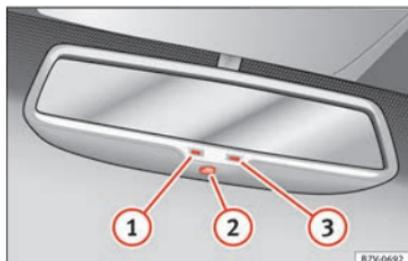

Fig. 147 Automatic anti-dazzle function for rear vision mirror
Key to **Fig. 147**:
- ① Control lamp
- ② Control
- ③ Light incidence sensor
This function can be activated and deactivated by pressing the rear-view mirror switch »» **Fig. 147** ②. When it is activated, the warning lamp lights up ①.